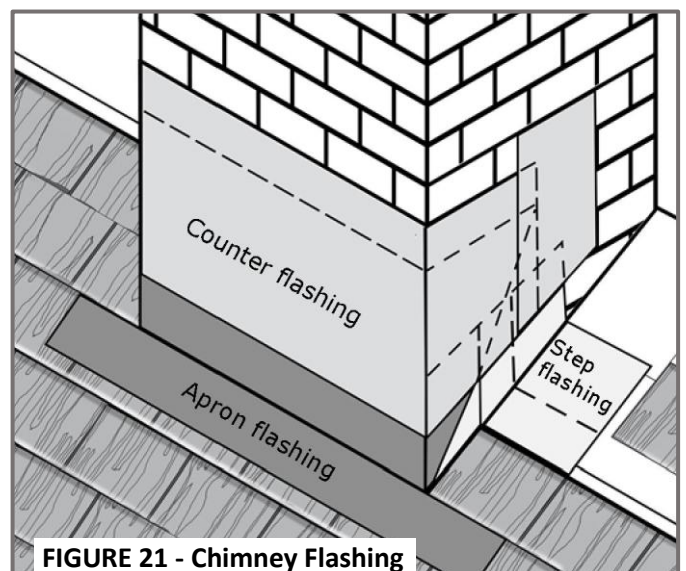

FIGURE 21 - Chimney Flashing
- Install sheet metal cap flashing as counter flashing over flashings such as step flashing and apron flashings. See **Figure 21**.